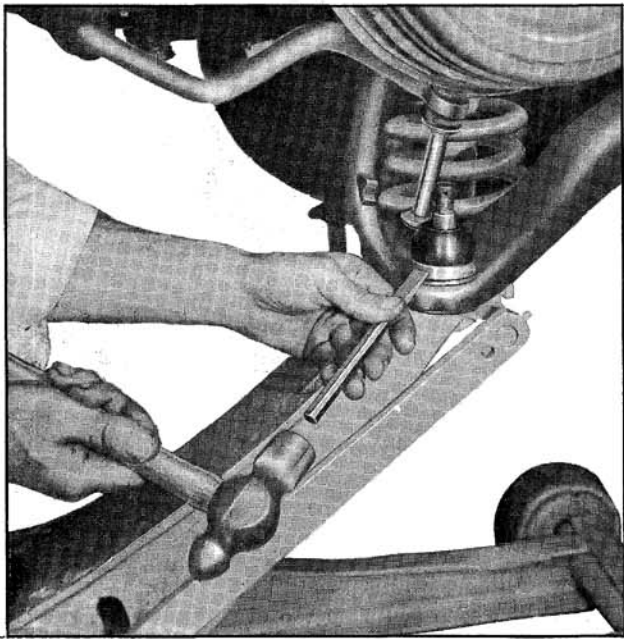

Fig. 9-124 Removing Lower Ball Joint Seal
Remove ball joint seal by prying off retainer with a screwdriver or driving off with a chisel as shown in Fig. 9-124 or 9-125.
6. Remove the seal by prying off retainer with a screwdriver or driving it off with a chisel. (Fig. 9-124)